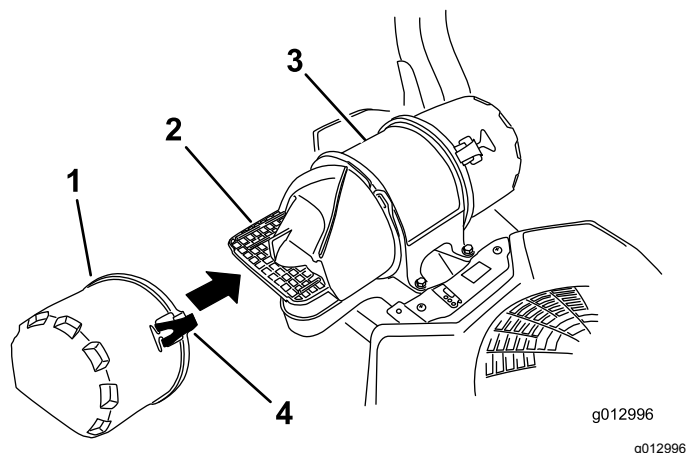

Figure 52
3. Release the latches on the air cleaner and pull the air-inlet cover off the air-cleaner body (Figure 52).
5. Install the air-inlet cover and secure it with the latches (Figure 52).